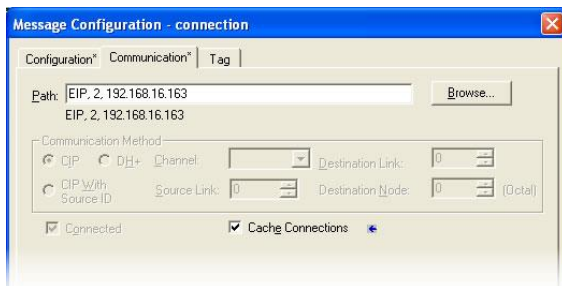

Figure 49: Setting the Communication Path
- d) "Communication" tab settings (refer to Figure 49):